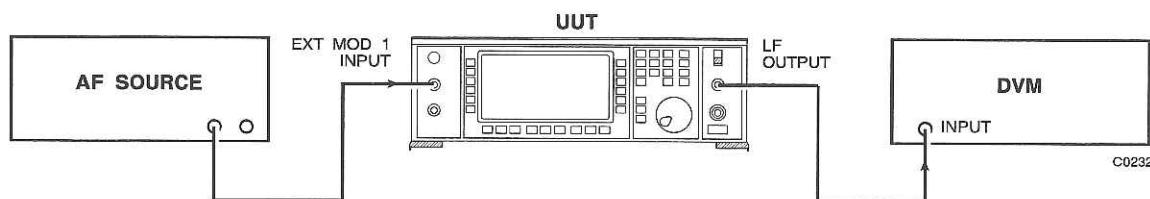

Fig. 5-2-2 Equipment configuration to measure the LF output level
| Fig. 5-2-2 Equipment configuration to measure the LF output level..... | 5-2-6 |
- (1) Connect the AF source to the EXT MOD 1 INPUT on the UUT. Connect the LF OUTPUT on the UUT to the DVM input. Equipment configuration is shown in Fig. 5-2-2.